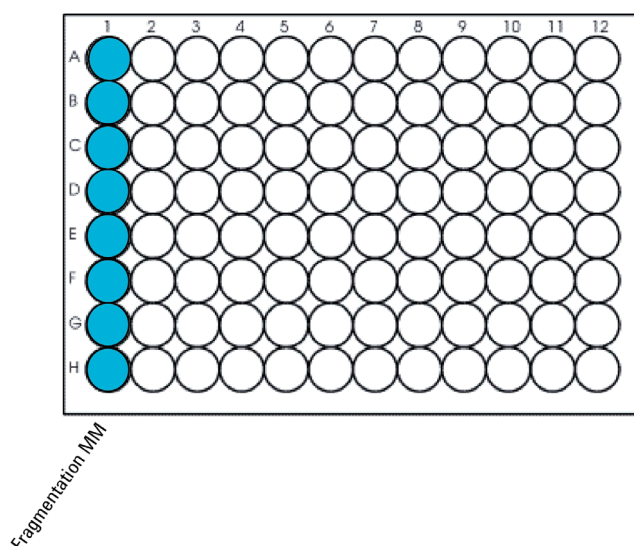

Figure 3 Master mix source plate configuration for EnzFrag_XT_LI_ILM protocol in Eppendorf twin.tec plate
- In an Eppendorf twin.tec plate, prepare the master mix source plate for the run as indicated in **Table 18**. Add the indicated volume of each mixture to all wells of the indicated column of the Eppendorf plate. Keep the master mixes on ice during the aliquoting steps. The final configuration of the master mix source plate is shown in **Figure 3**.